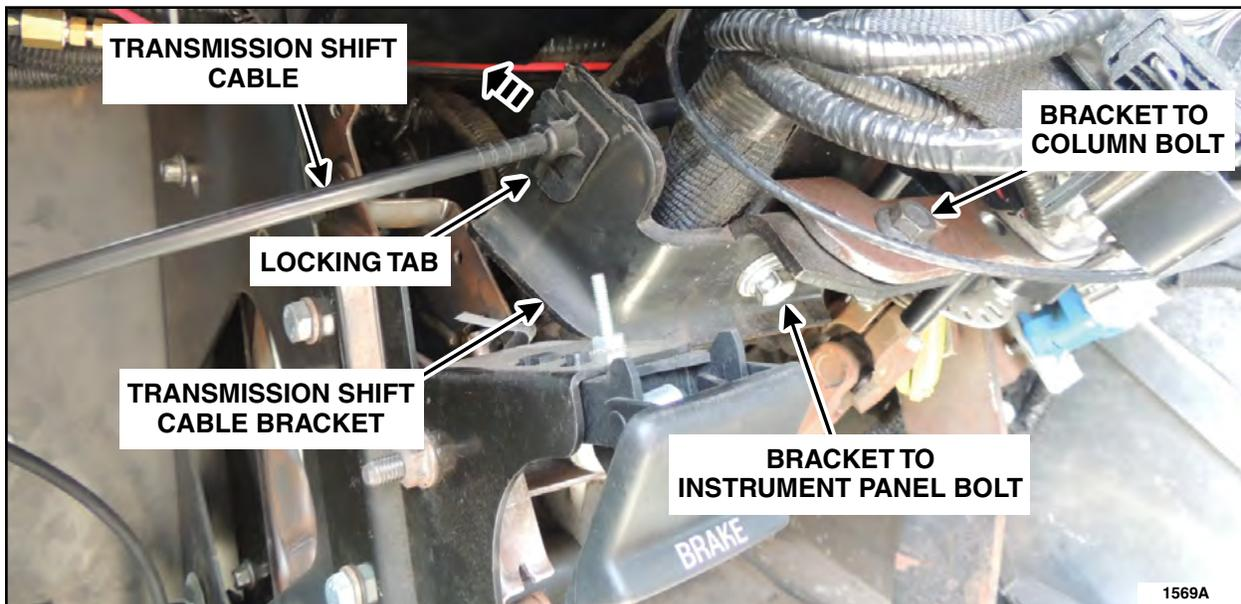

FIGURE 1
2. Remove the transmission shift cable bracket. See Figure 1.